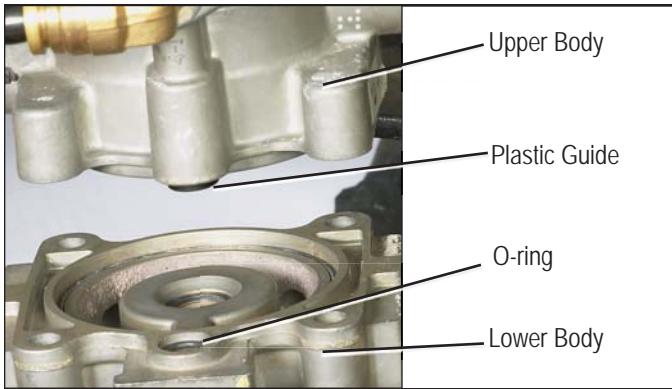
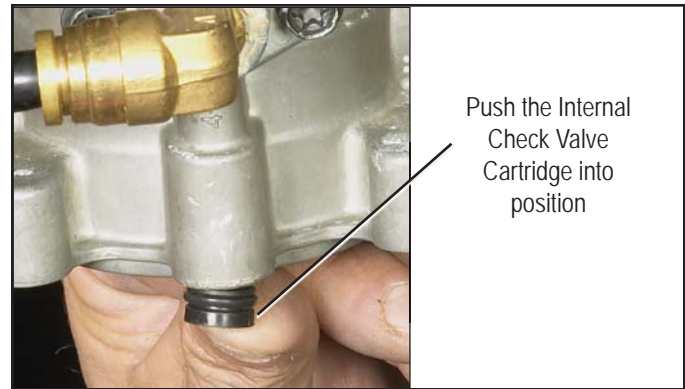

Figure 8 - PLASTIC GUIDE AND O-RING SEAL
Figure 10 - CARTRIDGE INSTALLATION
2. Locate the plastic guide in the upper body of the SR-7™ valve directly above the supply port. The o-ring seal from the lower body may stick to the plastic guide when the bodies are separated. If so, remove it from the guide and place it back into the lower body. An extra o-ring has been included in this kit in the event that the o-ring is lost or damaged during servicing. Refer to Figure 8.
1. Insert the replacement cartridge in the bore where the check valve, spring and plastic guide were removed. Note: Be sure to remove the replacement cartridge from its shipping tube prior to installation. Push the cartridge into position until it stops as shown in Figure 10. A portion of the plastic guide in the cartridge will stick out as shown in Figure 8. **DO NOT FORCE THE CARTRIDGE FURTHER INTO THE BORE.**